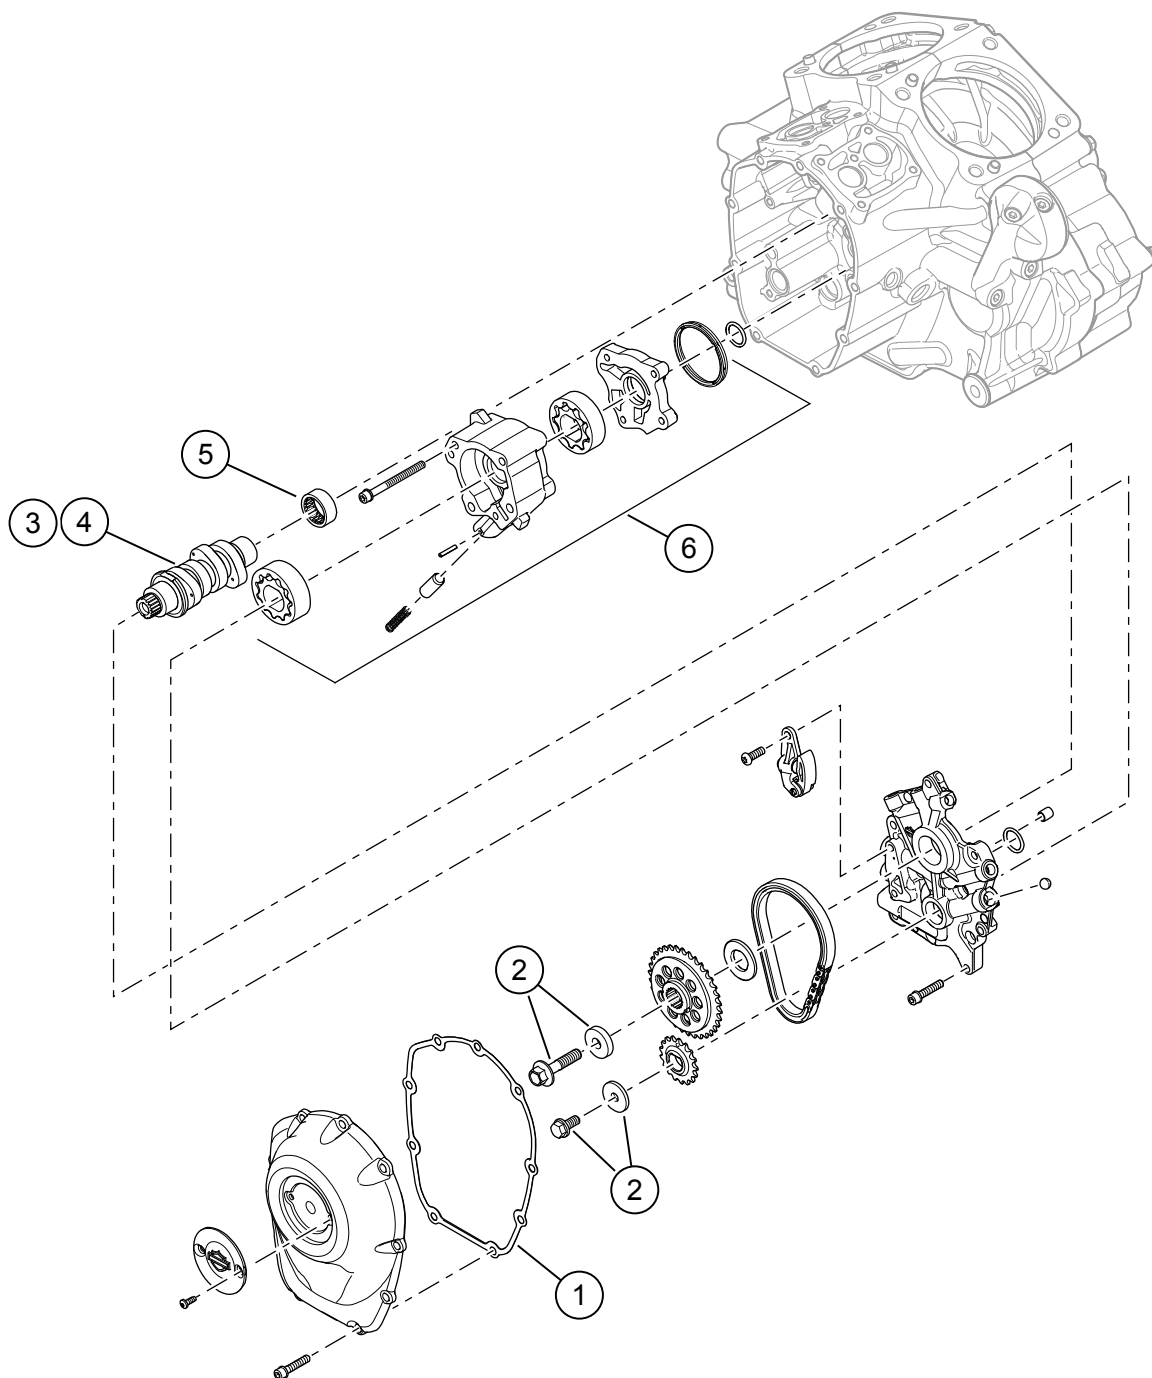

Figure 4. Service Parts: Screamin' Eagle Milwaukee-eight Stage 2 Kit
1. See Figure 4. Install oil pump. See service manual.